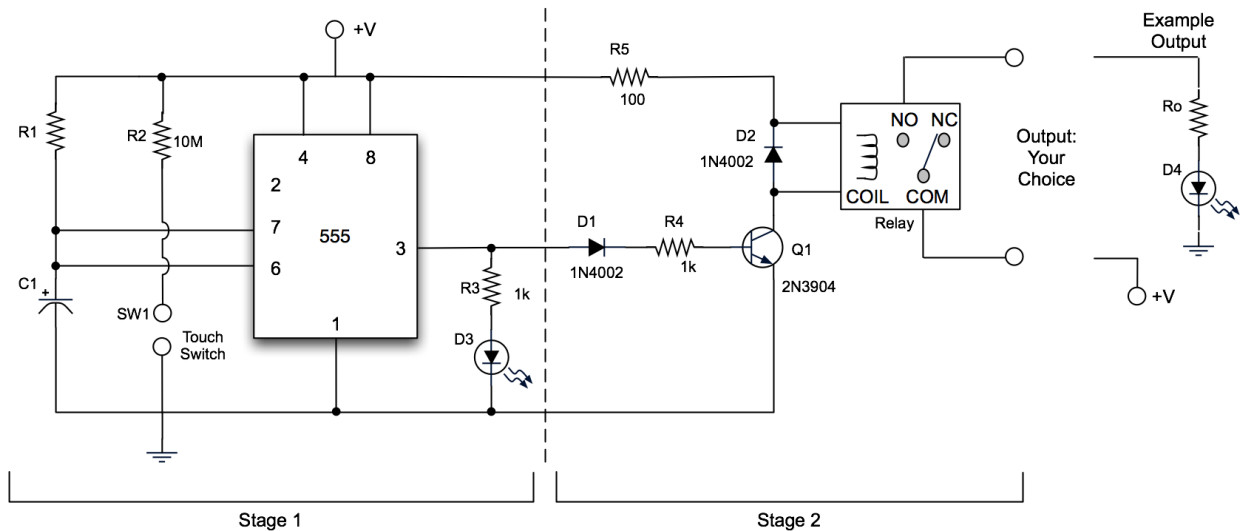

Figure 1: Touch switch circuit
The touch switch circuit is given in Figure 1 and is split into 2 stages. Stage one of the circuit produces the output pulse using the 555 timer to turn on the LED (D3). Once the desired output pulse width is defined, then stage two is added to complete the circuit. The input voltage for this circuit can vary widely. Enough voltage should be applied to drive the 555 timer and relay, however, too much voltage could destroy the 555 timer or the relay coil. The output components will also need to be considered when choosing the input voltage. One should consider this circuit as a marketable product for a toy, game, gag gift, holiday decoration, etc. when designing the output portion of the circuit. Important design questions should be answered:
Build stage 1 of the Project circuit (Figure 1) and simulate it for 10 seconds. Use the input voltage stated in Q2. To simulate the touch input to pin 2, use a monetary switch or push-button. Observe how long the LED is on for chosen values of R1 and C1. Compare the output pulse to the values given in the 555 timer datasheet. **Stage 2 components that should not appear in stage one simulations are: D1, D2, R4, R5, Q1, Relay, Output components. Save the schematic. Use the oscilloscope function to generate waveforms for the input or pin 2 and output of pin 3. Save the waveforms. Make sure that each waveform is distinguishable when printed in black and white. Make separate graphs if you have to or use the excel export function to make dashed/dotted lines. (Put these images in Appendix 2)
Add stage 2 to the previous circuit simulation and simulate it for 10 seconds. Use the input voltage stated in Q2. Use the example output after the relay from the project circuit given in Figure 1. To simulate the touch input to pin 2, use a momentary switch or push-button. Use a EDR201A05 Relay in your circuit, which can be found in the relay category of component group basic. This is a SPST relay with a NO contact, and not a SPDT relay like we have in the lab, but when the circuit is built only the NO will be required. **When simulating the full circuit, only tap the space bar once or an error will occur. Observe how long the LED is on for chosen values of R1 and C1. Compare the output pulse to the values given in the 555 timer datasheet. Save the schematic. Use the oscilloscope function to generate waveforms for the input pin 2, output of pin 3, and the collector side of the BJT. Save the waveforms. Make sure that each waveform is distinguishable when printed in black and white. Make separate graphs if you have to or use the excel export function to make dashed/dotted lines. (Put these images in Appendix 3)
This part of the project involves constructing the circuit and demonstrating that it works as demonstrated by the simulation. Build each stage of the circuit in Figure 1 and then add the designed output portion. Answer all questions listed below as a discussion in tech memo format. Create all specified appendices in tech memo format.
1. Construct stage 1 of Figure 1. Take oscilloscope measurements on this circuit just as you did in the simulation. Save a waveform that captures the input trigger and one that captures the output pulse. (Put these images in Appendix 1)
2. Add stage 2 of Figure 1 to the circuit of step 1, including the example output. **Be sure to use the same LED as specified in Q7 of Part 1. Take oscilloscope measurements on this circuit just as you did in the simulation. Save a waveform that captures the input trigger, one that captures the output pulse and one that captures the collector side of the BJT. (Put these images in Appendix 2)